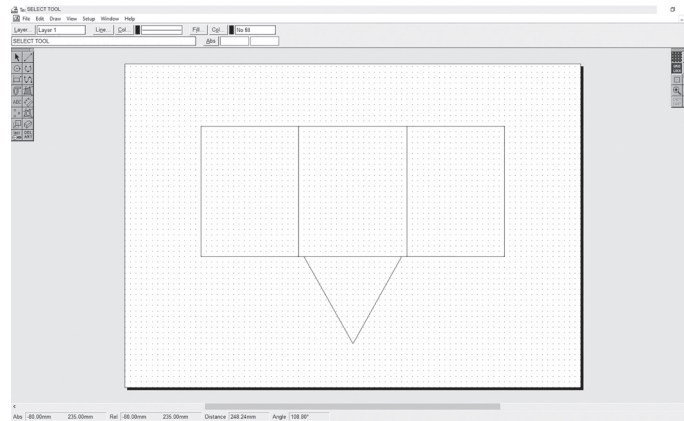

Fig. 11.2
- (a) Fig. 11.2 shows a screenshot of the development (net) of one of the containers produced using CAD.